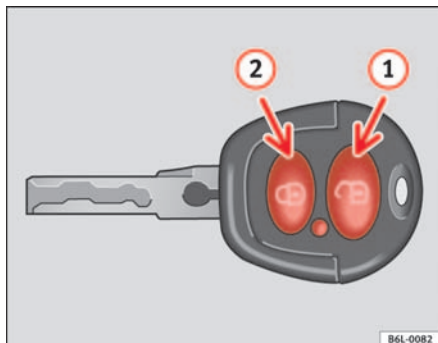
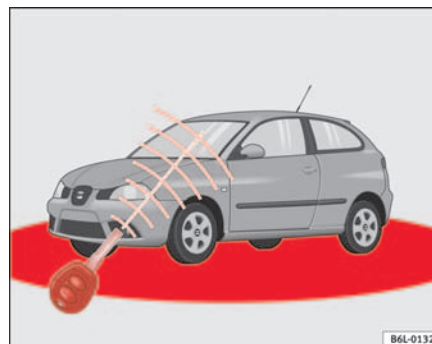

Fig. 47 Assignment of buttons on the remote control key
Fig. 48 Range of the remote control
The range (red zones) ⇒ fig. 48 of the remote control is shown in the diagram. The maximum range depends on a number of circumstances.
To **open**, place the key within the range, pointing towards the vehicle and briefly press the open button  ⇒ fig. 47 . The indicators flash twice. To ►
lock the vehicle, press the lock button briefly  ⇒ fig. 47 . The indicators flash once.
By pressing the lock button **twice**  ⇒ page 76, fig. 47  both the locking security mechanism (double lock) and the volumetric alarm* are deactivated but the perimetric alarm* remains active and this is indicated by the indicator light on the driver's door.
When the button  ⇒ page 76, fig. 47  is used the driver's door is unlocked, all others remain locked.
Press the button  ⇒ page 76, fig. 47  twice to unlock all doors.
- The remote control functions only when you are in range ⇒ page 76, fig. 48 (red area).
- Use both keys that have been delivered with the vehicle; the key with the remote and the normal key ⇒ page 76, fig. 47 ⇒ page 76, fig. 48. ▶